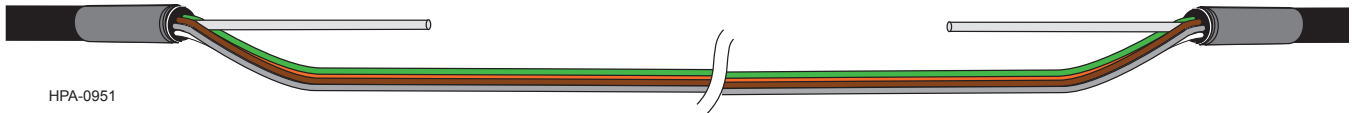

Figure 18
**Step 11:** Separate the buffer tubes from the central member. Cut the central member at each end of the mid-span (near the tape marks) to the appropriate length for strain-relief. If you will be installing cable strain-relief hardware that clamps into the jacket, place three layers of vinyl tape over the area where the clamps will make contact with the jacket. (Figure 18).